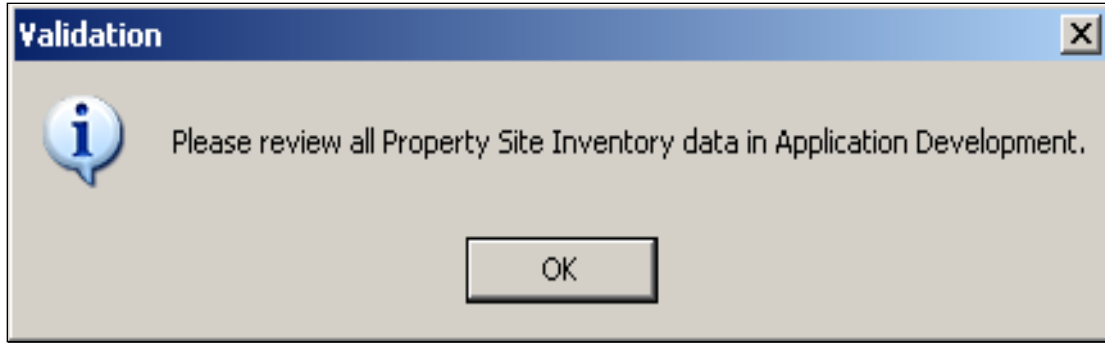

Figure 12-3: Missing PSI Information Validation Message
6. If the approved project does not meet the conditions for closeout, the appropriate project closeout validation message is displayed. Figure 12-3 is an example of the message you receive in approved projects when the Property Site Inventory (PSI) has missing information.